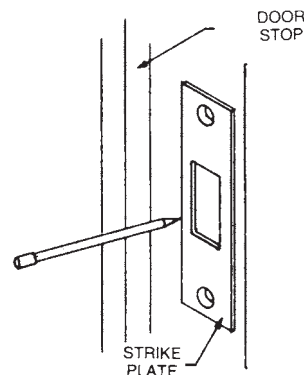

Figure 13.49 Mark strike plate. (M.A.G. Engineering and Mfg., Inc.)
3. Mark the center hole required to be drilled; also mark around the strike plate edge (Fig. 13.49).